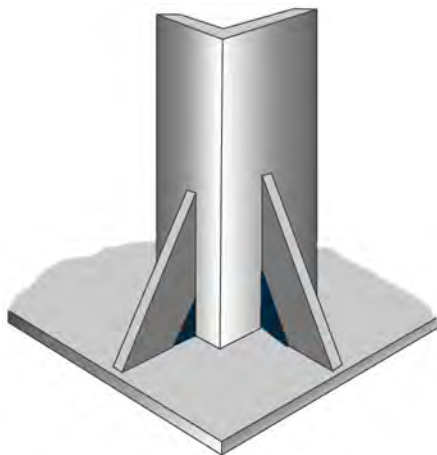

Figure 8: Cropped bracing
- Where gusset plates are used, generously cropped corners provide for free drainage. When cropping gusset plates is not possible, holes at least 1/2-inch (13 mm) in diameter must be placed in the plates as close to the corners as possible (*Figure 8*).